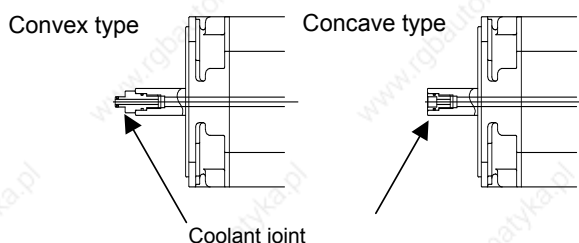

Fig. 3: Example of a coolant joint
- Check whether coolant leaking from the coolant joint does not leak from the coupling. (See Fig. 3)